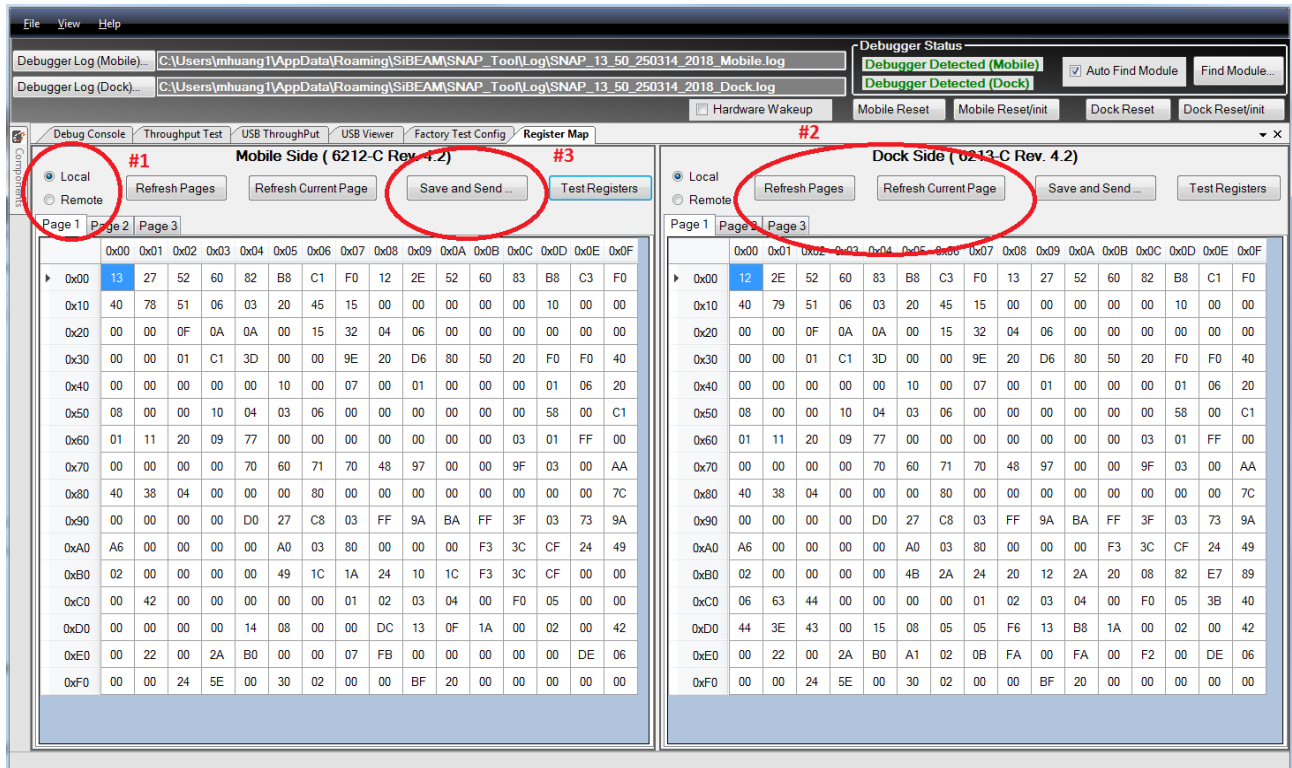

Figure 3.8. USB Register Map Main Page
The Register Map page is used to read back to local or remote Snap registers value. You can also use the **Save and Send** button to store the registers value and send to the Snap support team to review and analyze the Snap behavior (Figure 3.8).
- **Local** (1) (Figure 3.8) reads the local Snap registers value.
- **Remote** (1) (Figure 3.8) reads remote registers value through the Snap remote debug feature.
- **Refresh Pages** (2) (Figure 3.8) updates all of the Snap register pages.
- **Refresh Current Page** (2) (Figure 3.8) updates the current Snap register page.
- **Save and Send** (3) (Figure 3.8) allows users to store the current registers setting and send the registers setting to the Snap team for review.